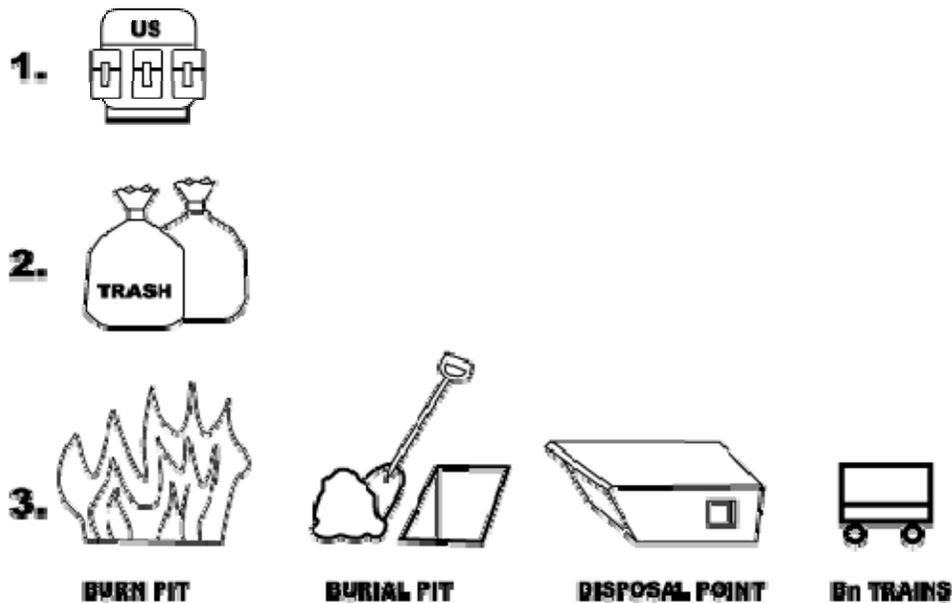

Figure 5-1. Trash Disposal chain from individual to company and battalion.
- a. (2) DOS Class I and II on-hand.
- (1) Companies may be responsible for their own trash disposal. *See Figure 5-1.*
- (2) Trash disposal is not a peacetime routine. Trash disposal is an OPSEC and preventive medicine / hygiene priority!